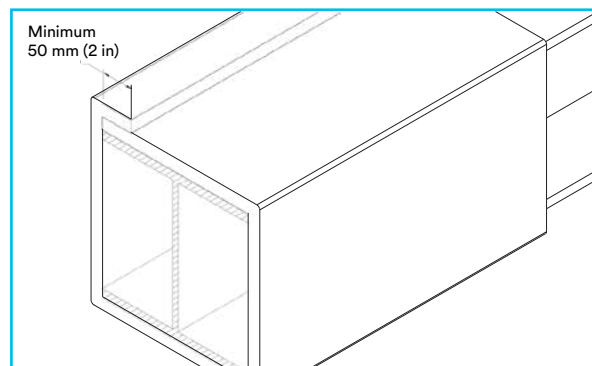

Figure 3
- 2 Cut Endothermic Mat 5A-4 (E-Mat) to length using bladed edge. Align E-Mat to the steel with foil side facing outward (white side should be in contact with steel). The edge of E-Mat can be held temporarily in place by filament tape or by another worker. Wrap E-Mat around the steel then overlap itself by a minimum of 50 mm (2 in) (*Figure 3*). Additional overlap is acceptable but not required. E-Mat should be tight to the steel, free of slack.